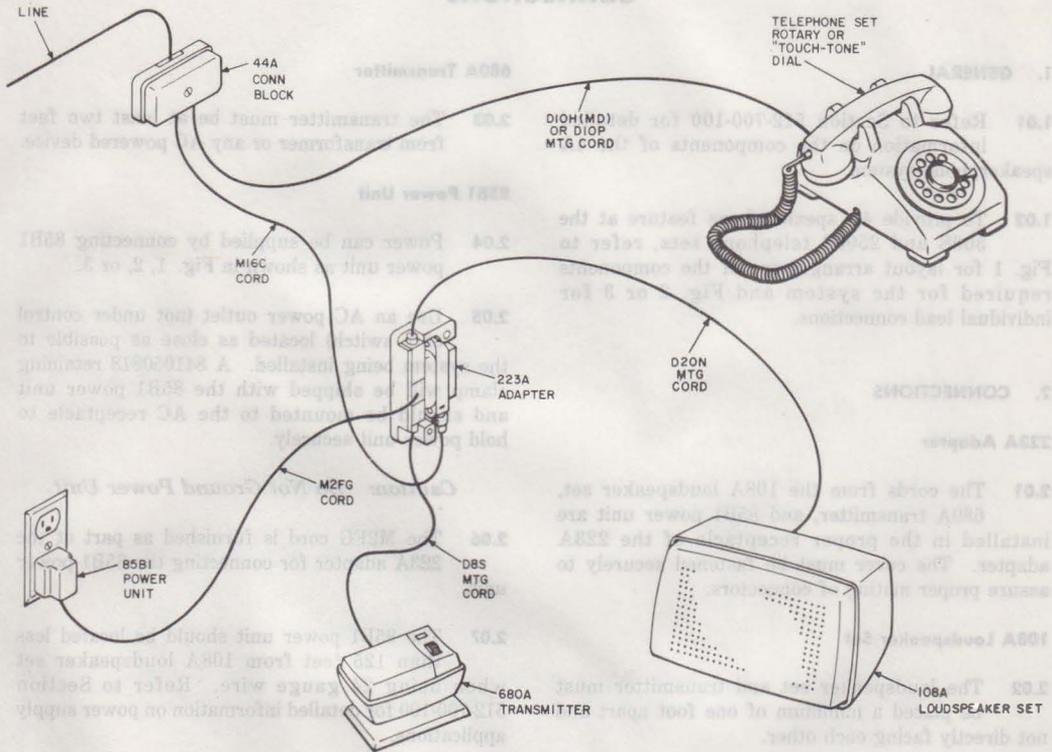
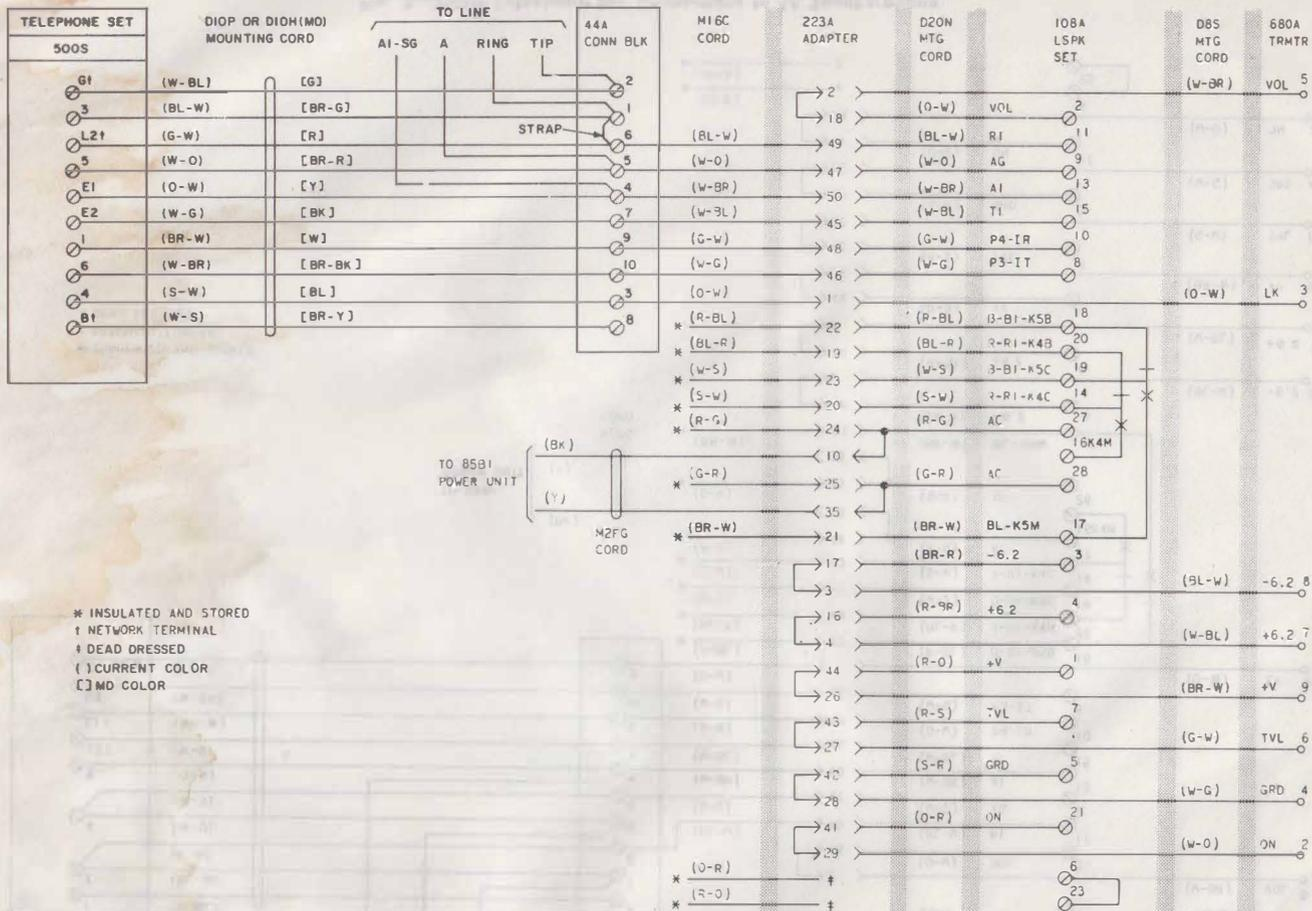

Fig. 1—Speakerphone Arrangement, 5005 or 25005 Telephone Set
Fig. 2—500S Telephone Set Connections to 4A Speakerphone
1.02 To provide 4A speakerphone feature at the 500S and 2500S telephone sets, refer to Fig. 1 for layout arrangement of the components required for the system and Fig. 2 or 3 for individual lead connections.
2.04 Power can be supplied by connecting 85B1 power unit as shown in Fig. 1, 2, or 3.